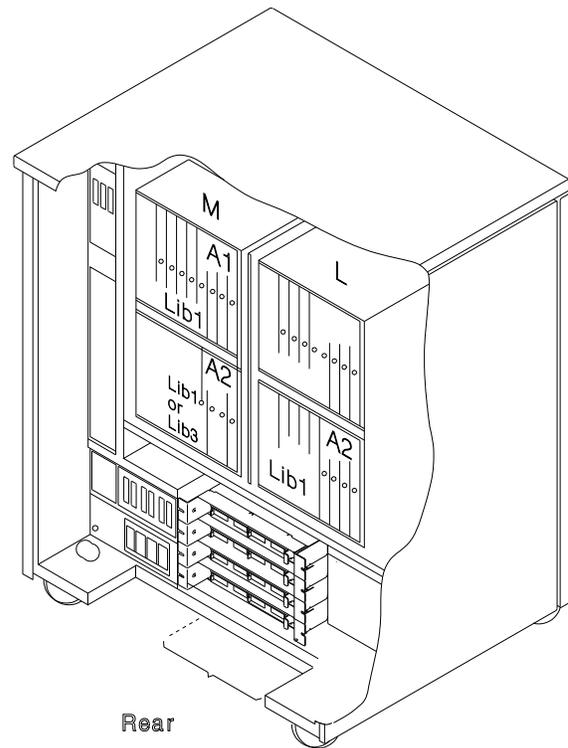

Figure 4-46. Location of the LIC Boards
2. For the board location refer to Figure 4-46.